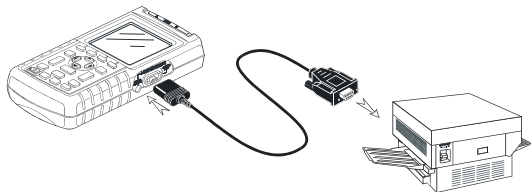

Figure 1-22. Connecting a Serial Printer
- The Optically Isolated RS-232 Adapter/Cable (PM9080, optional) to connect a serial printer to the OPTICAL PORT of the test tool. See Figure 1-22.